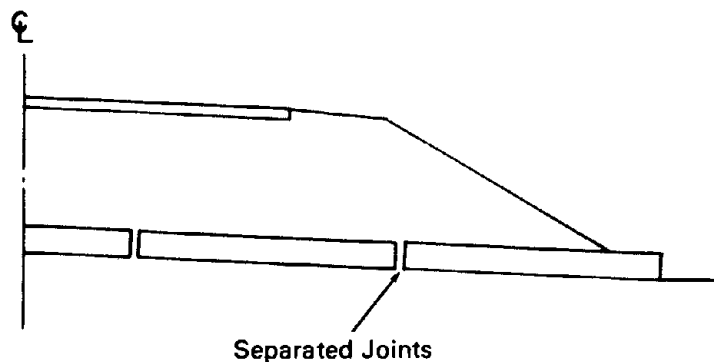

Figure 7. Pipe with separated joints.
- d. Make immediate repairs of separated joints (figure 7). (Do not allow water to infiltrate from pipe joints).